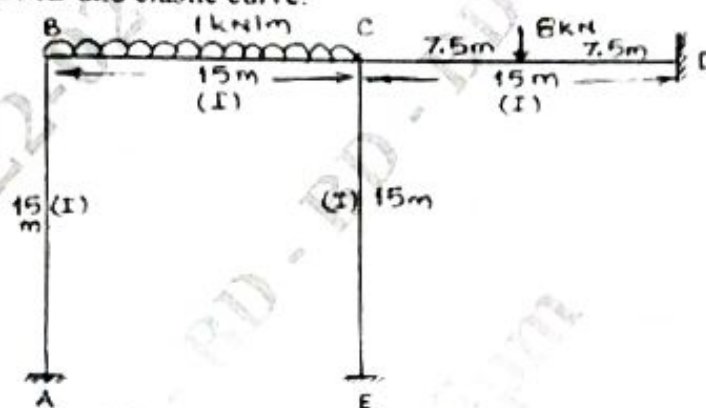

Fig.Q6
- 6 Analyze the portal frame shown in Fig.Q6 by using Kani's method. Assume EI is constant throughout. Draw BMD and elastic curve.